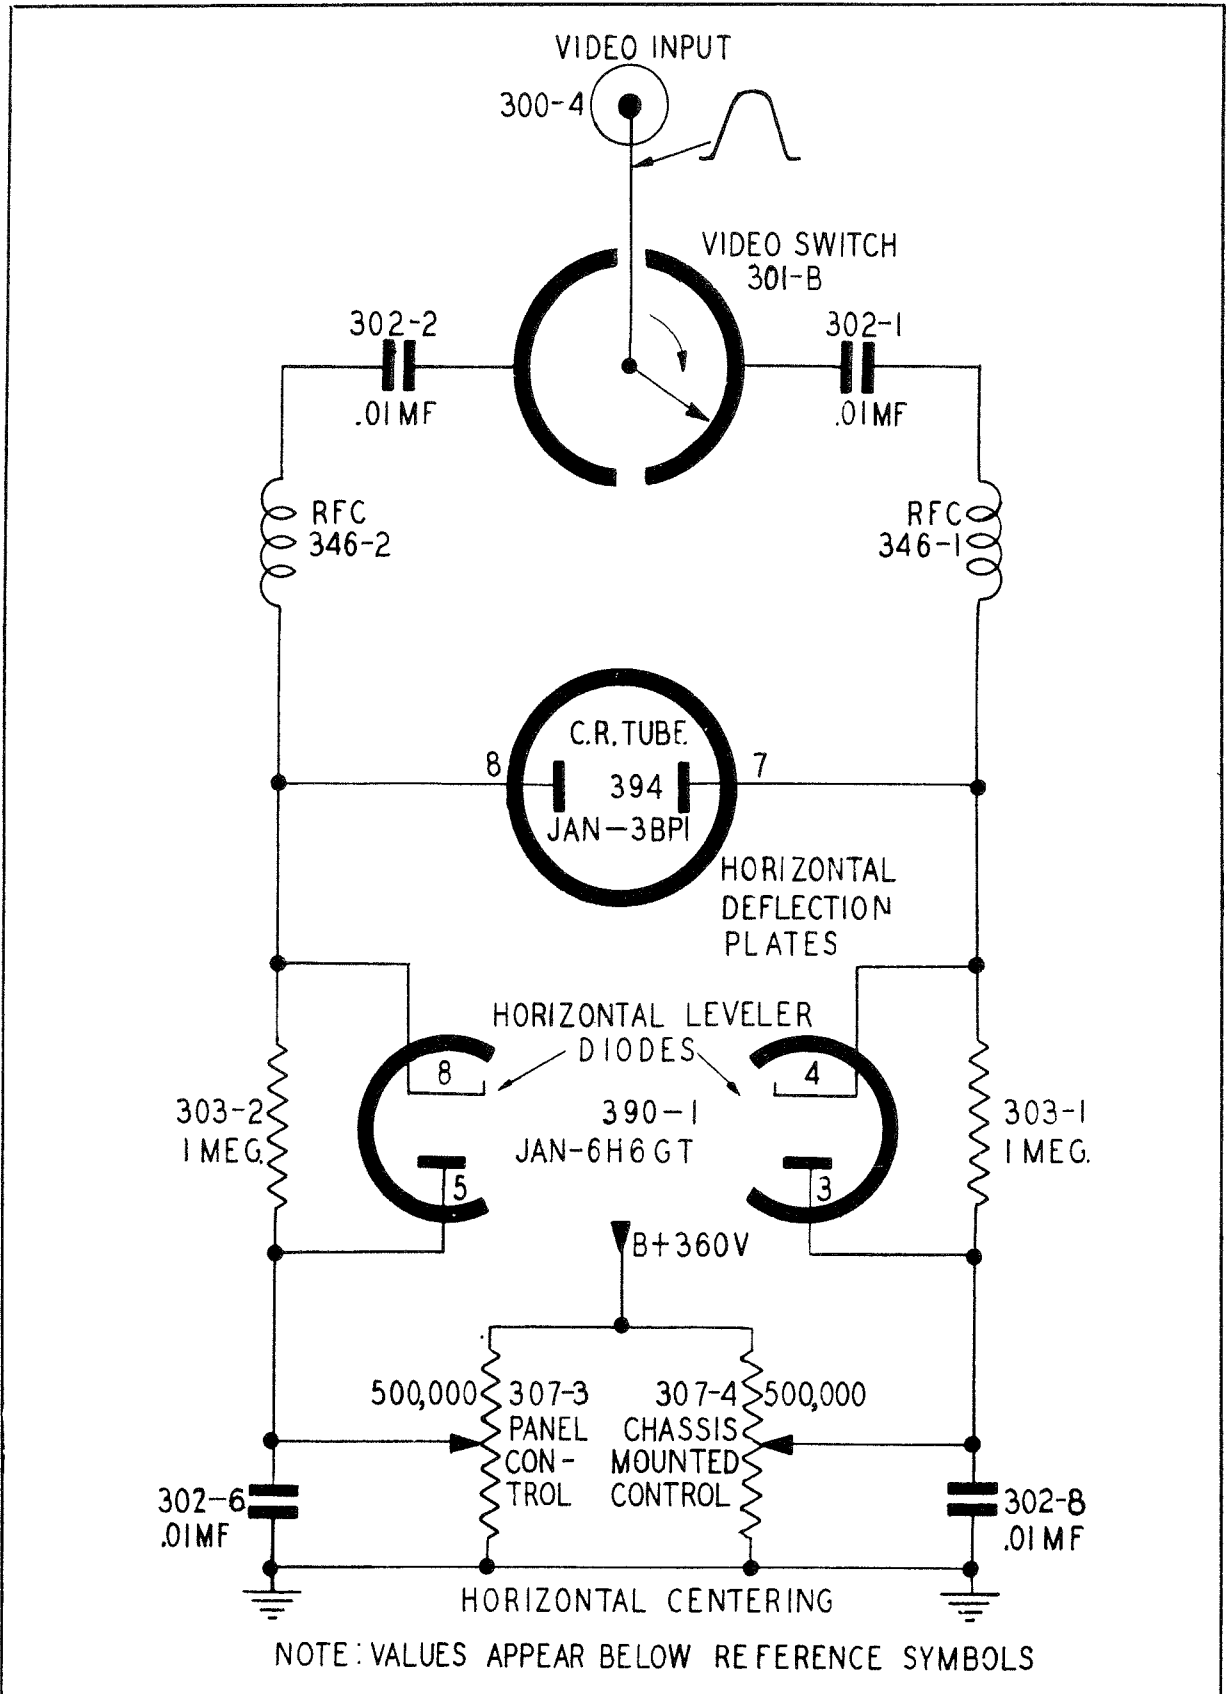

Figure 4-10. Horizontal—Deflection Diode Leveler, Sectional Diagram
(a) VIDEO INPUT. (See figure 4-10.)—The video signal, a positive output from the receiver, is fed through connector 300-4 to switch 301, section B. This motor-driven switch has two sections. Section A controls the switching of the right and left receiving antennas to the r-f section of the receiver. Section B switches the video output of the receiver to the right and left horizontal-deflection plates of the cathode-ray tube in synchronism with the switching of the right and left antennas to the receiver.
3. A positive pulse fed through capacitor 302-2 to the horizontal-deflection plate of the cathode-ray tube would normally cause the image to deflect to the left. With a signal of this polarity the left-hand diode does not conduct. (See fig. 4-10.) When the polarity of the incoming voltage reverses, the left-hand diode will act as a short circuit, causing the image on the cathode-ray tube to return to its normal center position.